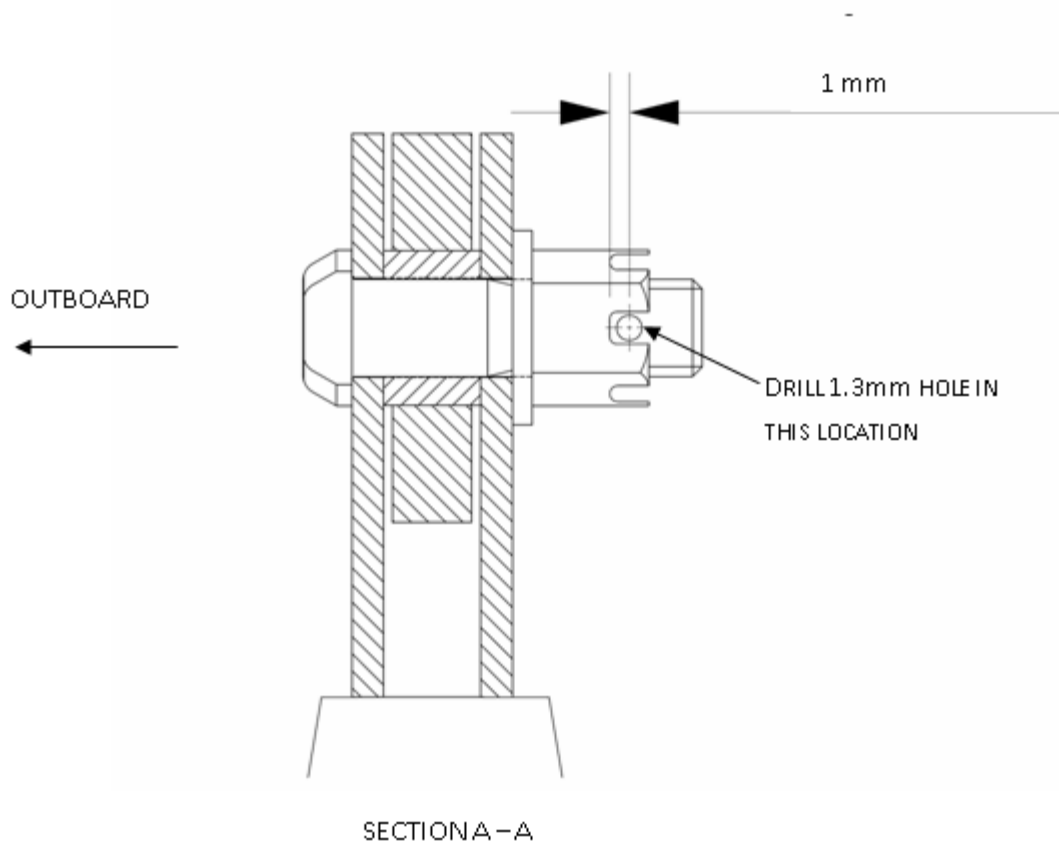

Figure 2 - Drill Hole Position
- (3) Attach the two rudder cable link plates and spacers to the rudder bar with the two low pan head bolts (T67M-45-0579), washers (126-23-103) and slotted nuts (126-22-113) provided in Modification kit T69A-05-1992 ensuring the bolt heads face outboard.
- (4) Tighten the slotted nuts (126-22-113) to 6.5 Nm.
- (5) Check clearance between bolt head and rudder pedals i.a.w. SB 187 (Issue 6) and SB 188 (Issue 6) as applicable. If clearance is still below required minimum, check that pedals are setup correctly. If clearance is still below minimum, inform Marshall ADG.
- (6) Referring to Figure 2, mark the drill hole position in each bolt.
- (7) Drill a 1.3 mm hole in the marked location in each bolt.
- (8) Install the split pins in the drilled holes and form the split pin legs and cut to length as required.